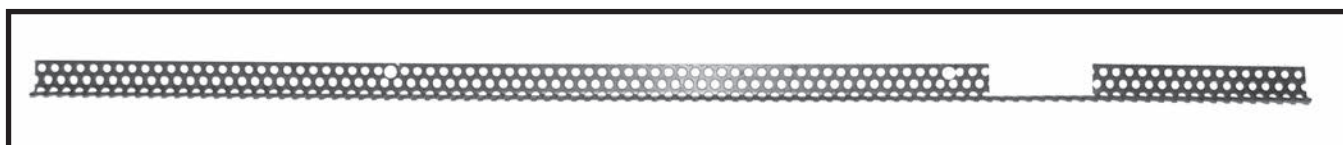
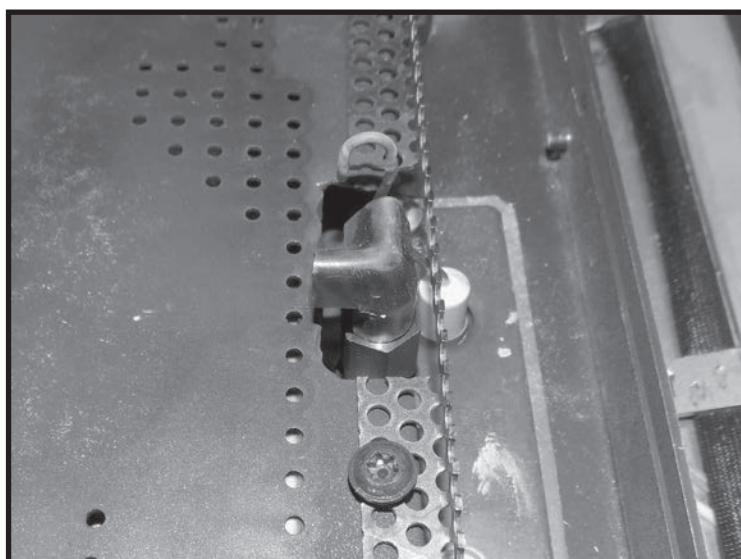

Figure 68: Front mesh guard.
Figure 69: Front mesh guard in place.
4. Place the front ember pieces retainer (Figure 68) along the front edge of the front burner. Secure with supplied screws. Fit the retainers gap around the pilot assembly (Figure 69).